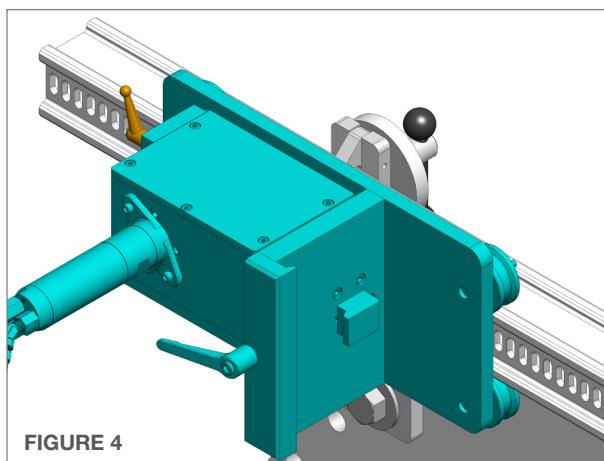

FIGURE 4
4. Loosen the **Quick Adjust Handle** and pull the gearbox away from the carriage plate. This will allow the **Horizontal Drive Carriage** to slide onto the rail without pneumatic power to rotate the drive. Center the carriage on the top rail and push the gearbox back toward the carriage plate. This will engage the gear into the rail slots. Verify the gear is engaging the slots correctly and tighten the adjustable handle. (**Figure 4**)